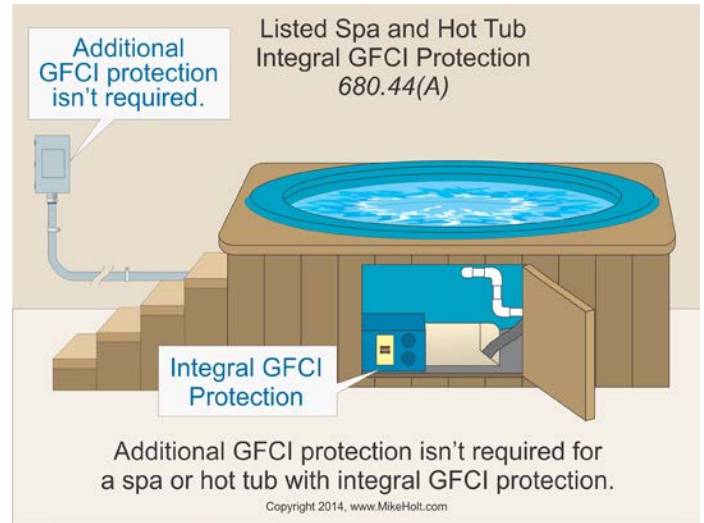

Figure 680-59
(A) Listed Units. Additional GFCI protection isn't required for a listed self-contained spa or hot tub unit or listed packaged spa or hot tub assembly marked to indicate that integral GFCI protection has been provided for electrical parts within the unit or assembly. Figure 680-59